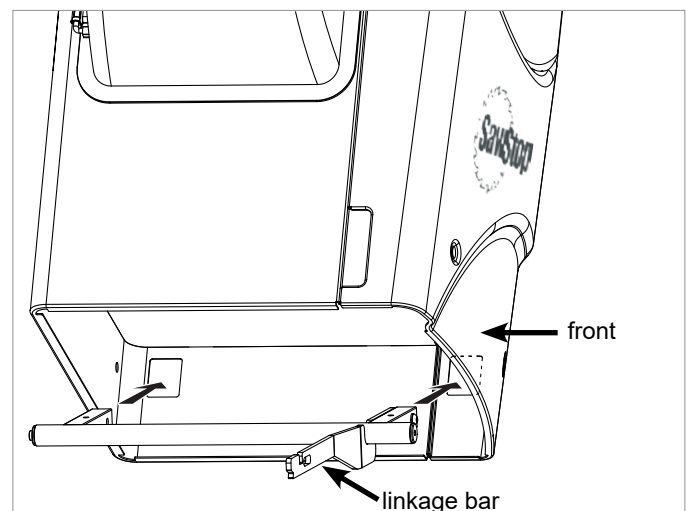

Fig. 25
7. With the saw tipped, place the ends of the two caster support arms through the two holes in the inside right face of the saw, as shown in Fig. 25. Make sure that the caster support is oriented so that the linkage bar is next to the front of the cabinet.